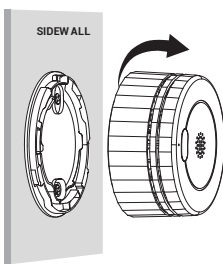

Figure 5
- 4.Attach the smoke alarm to the mounting bracket and turn clockwise to lock the alarm.(See Figure 5)